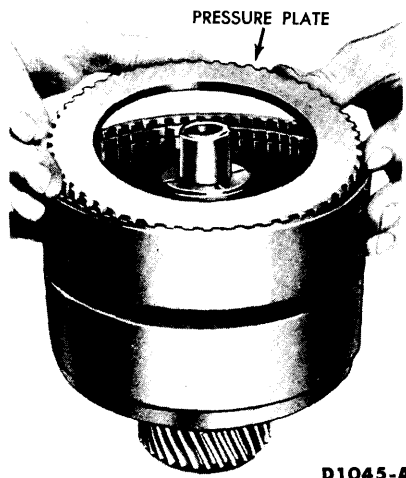
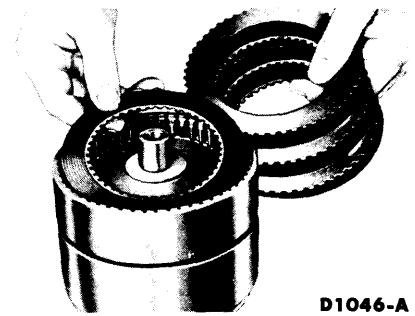

FIG. 35—Pressure Plate Installation
FIG. 36—Clutch Plate Installation
13. Install the pressure plate in the clutch cylinder with the bearing surface up (Fig. 35). Install the bronze composition and the steel clutch plates alternately, starting with a bronze plate (Fig. 36). Lubricate the plates as they are installed.